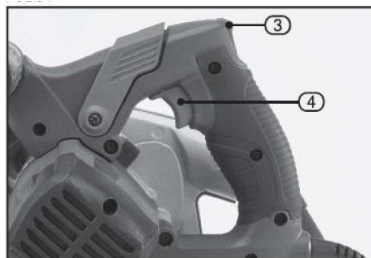

FIG.5
11.1 Switching ON/OFF (Fig. 5)
- The on/off switch (4) is operated in conjunction with a safety release button (3) so that it is not possible to start the saw by accident.
- To start the saw, press the safety button (3) first and then press the on/off switch (4).
- To switch off, release the on/off switch (4).